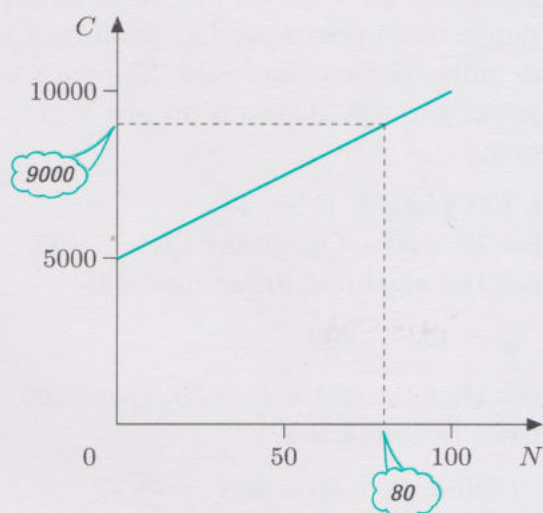

Figure 48
- Take the number of instruments made per week to be N and the corresponding total costs to be $\pounds C$. Assume that C increases at a constant rate with N , which leads to the linear graph in Figure 48.